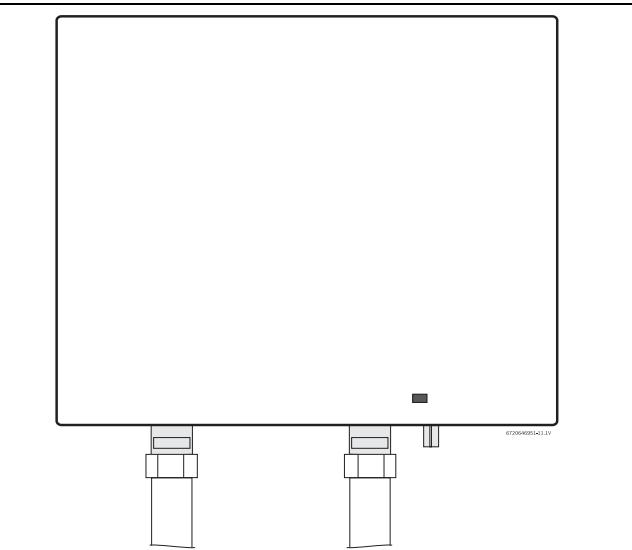

Fig. 6 Vertical mounting position
► The heater must only be installed in the orientation shown in Fig. 6 i.e., mounted in a vertical position with the water fittings located at the bottom of the heater. **Under no circumstances should the heater be mounted differently.**